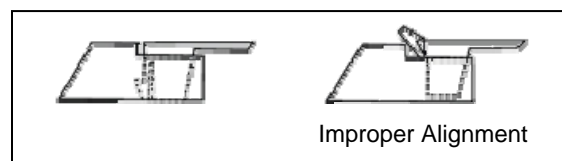

Figure 4
3. Align the locks and apply pressure to connect and lock sheets in place. Make sure all tabs have been locked in properly before moving on, as shown in Figure 4.